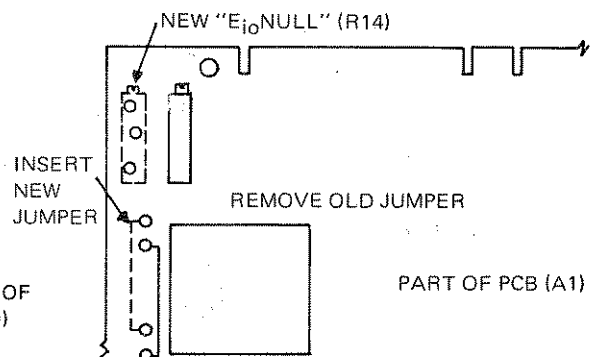

FIG. 5-2 INSTALLATION OF
- a) Remove thy PCB Assembly from the chassis as described in paragraph 5-3. Locate the pre-designated space for the additional components on FIG. 5-2.